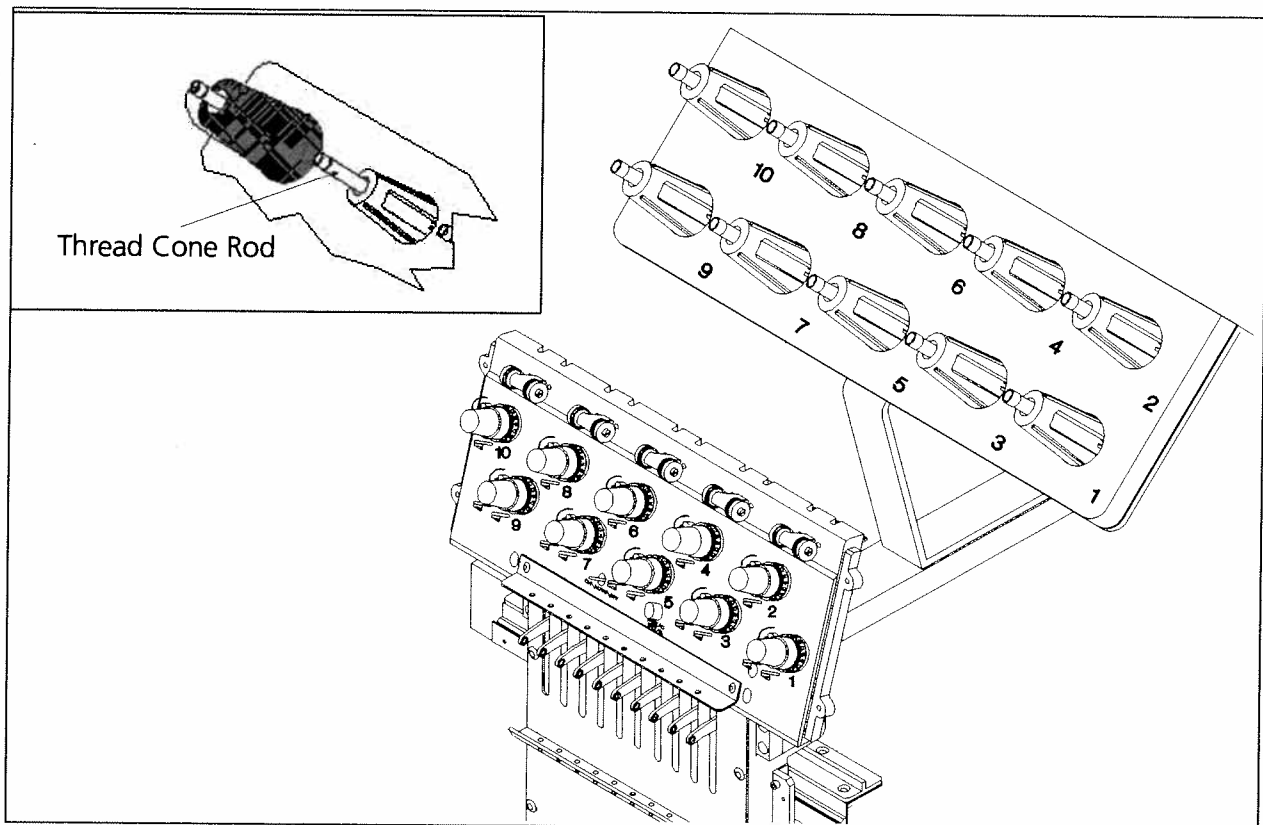

Figure 4-1
1. Put a cone of thread on any position of the thread tree above the head (see inset in Figure 4-1).